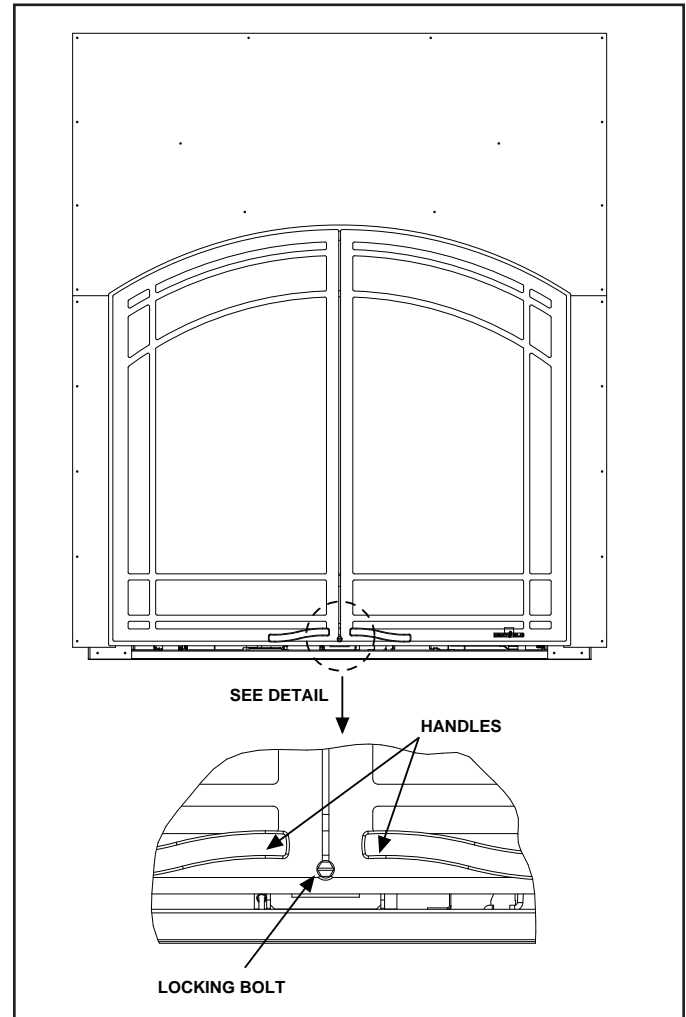

Figure 1.
1. To lock the doors shut, insert the black 10-24 Phillips head bolt through the small notches by the handles. Tighten the bolt into the threaded insert mounted between the spring clips on the lower hinge bracket. See Figure 1.